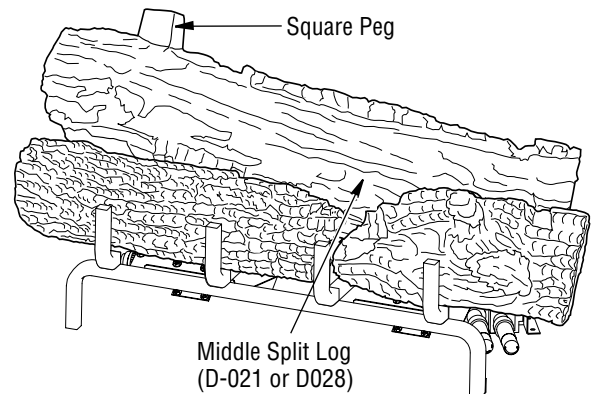

Figure 22 - Installing Middle Split Log (D-021)
5. Find the middle split log (SouthernComfort30A/B or ShadyHollow30A/B models: D-021, SouthernComfort36A/B or ShadyHollow36A/B models: D-028). See **Figures 22 and 22A**. The split side of the log faces forward. The log has a notch that fits around the burner tube on the right side. The left side of the burner tube fits into the notch on the back side of this log. The log is placed properly when it sits parallel to the tube burner and the square peg is pointing up. See figures for reference.